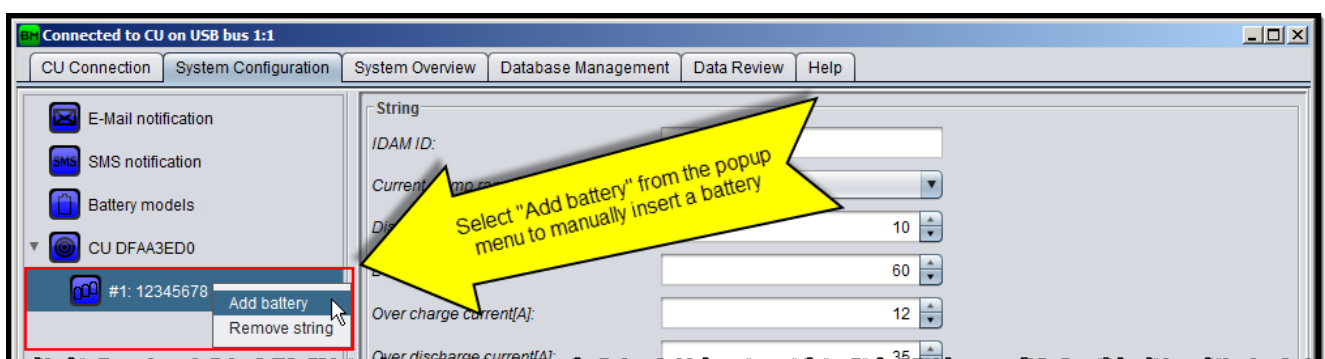

Figure 28: Manually add battery
1. Right click on the String icon to open the popup menu and select “Add battery” as shown on Figure 28.